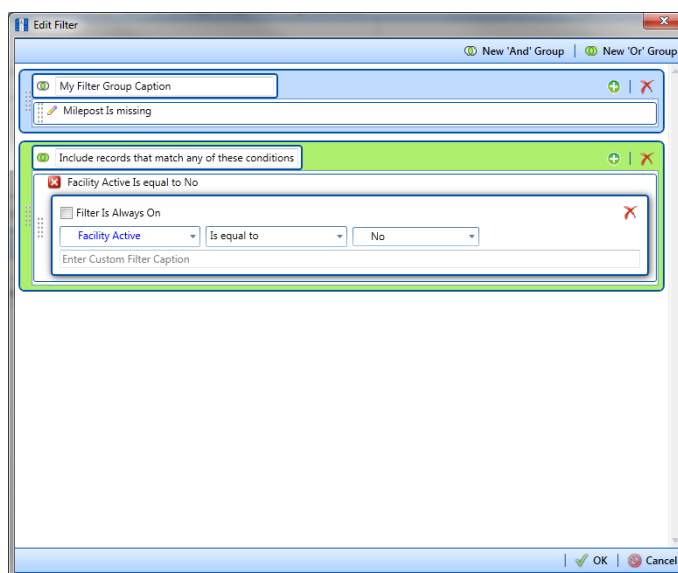

Figure 9-33. New 'Or' Filter Group
- a Click  **New 'Or' Group** to open a filter properties group box (Figure 9-33).